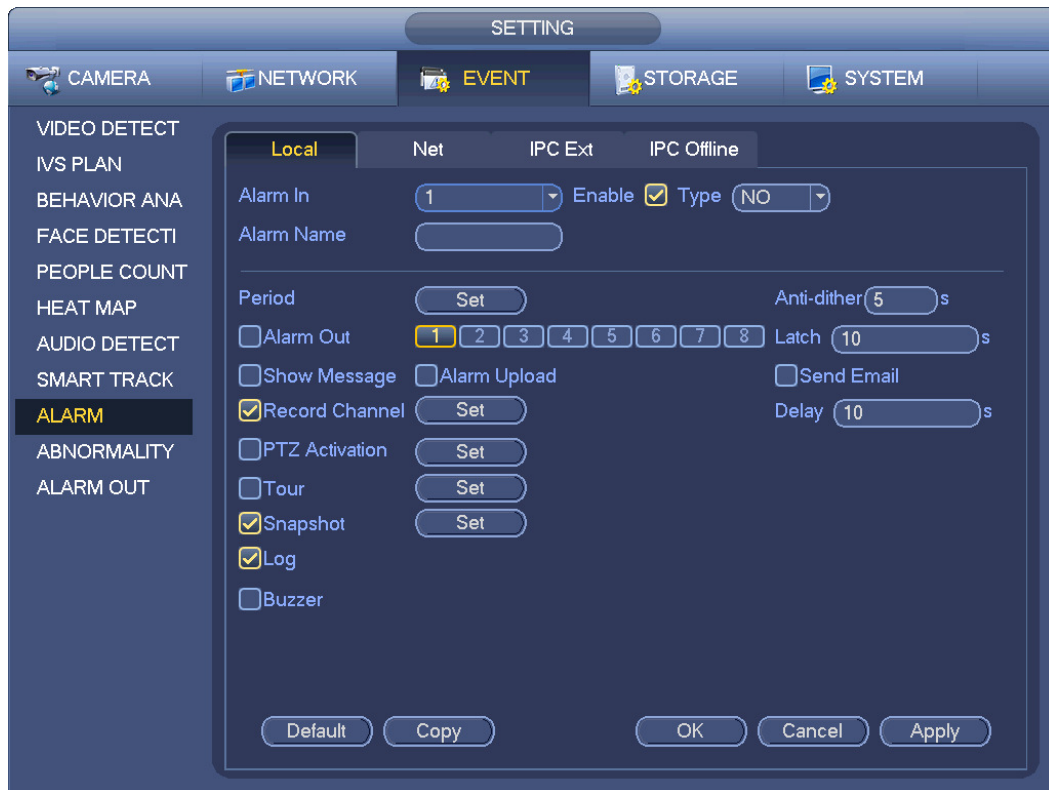

Figure 3-74
In the main menu, from Setting->Event-> Alarm, user may see alarm setup interface. See Figure 3-74.
- c) From Main menu->Setting->Event->Alarm, user may go to Figure 3-74 to set alarm parameter and enable snapshot function.